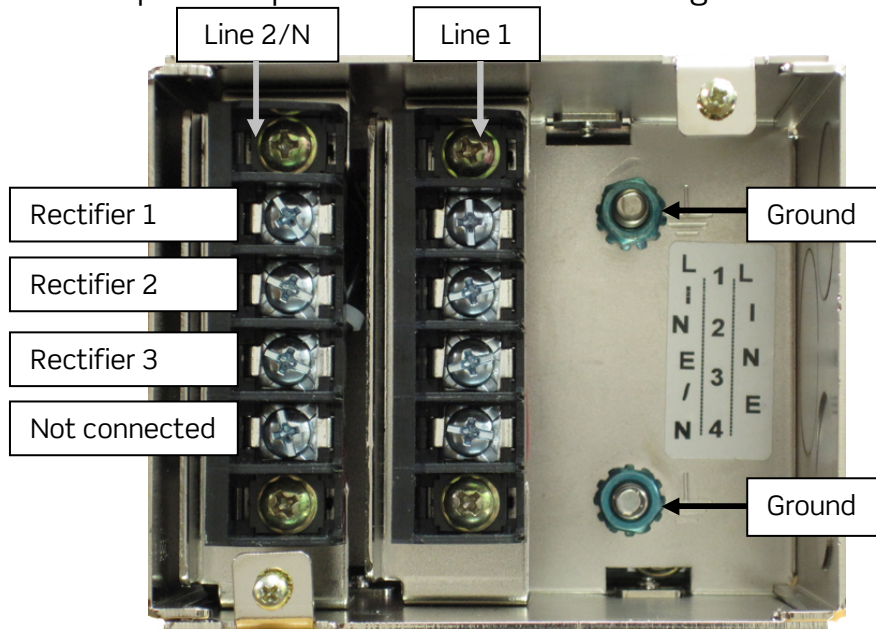

Figure 16 - AC Connections (Individual Feed)
2. Connect each line/hot to Line 1 (L1), rectifier 1 (R1), labeled on the AC terminal block (Figure 16).
2. Connect the line/hot to Line 1 (L1), rectifier 1 (R1), labeled on the AC terminal block (Figure 16).